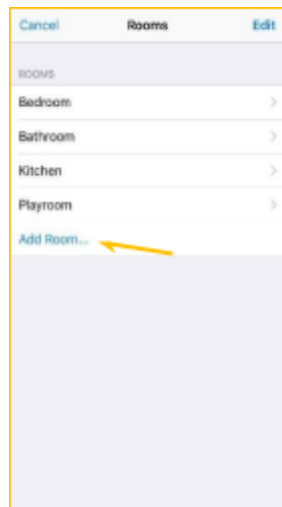

Figure 41
**10.9.7.** Click **Add room** (Fig. 41) to add a room to the current Home.